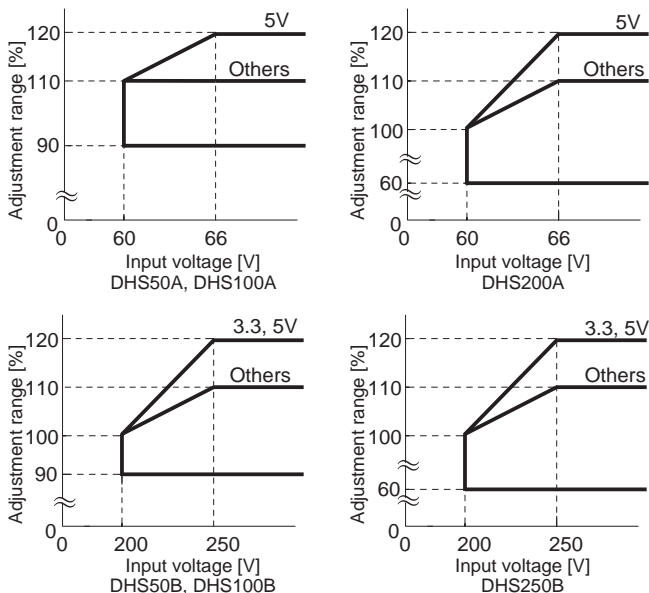

Fig. 4.4 Output Voltage Adjustment Range
■ When the input voltage is 60 - 66VDC or 200 - 250VDC, the output voltage adjustment range becomes as shown in fig . 4.4.